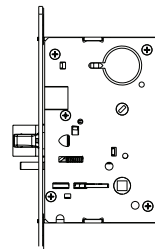

Figure 4
1. Insert flat blade screwdriver into spade shaped slot. (Figure 4)